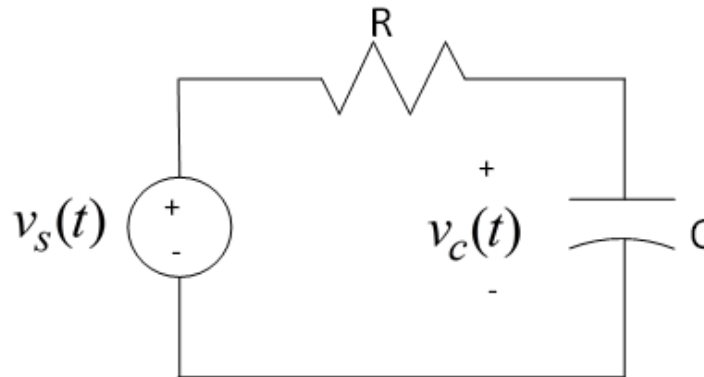

Figure 2: First order system (RC Circuit)
1. The RC circuit in Figure 2 represents a first order system. Build the circuit on the breadboard with  $R = 1 \text{ k}\Omega$  and  $C = 1 \text{ }\mu\text{F}$ . The input will be the function generator and the output will be the voltage across the capacitor.